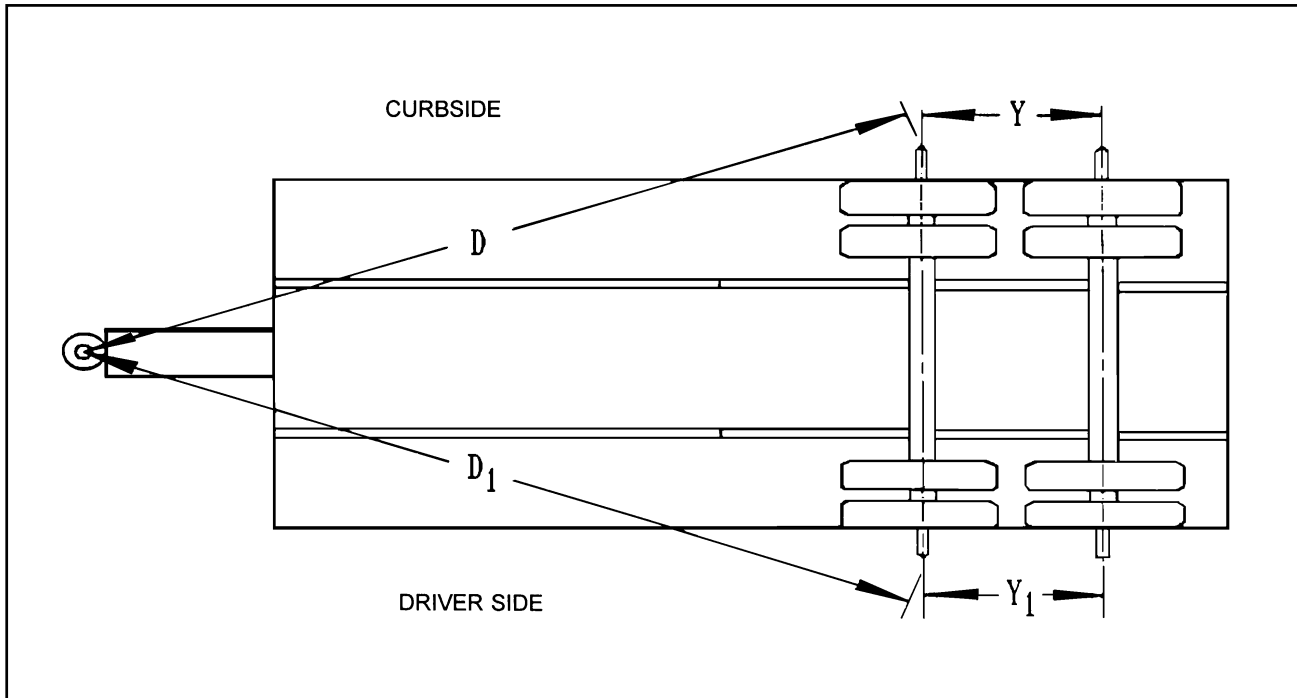

Figure 4-7 Checking Axle Alignment
4. Measure (D) from the plumb bob to the center point on one end of the axle. Record this measurement (See **Figure 4-7**).
5. Measure (D1) to the other end of the axle in the same manner as in **Step 4**. Record this measurement (See **Figure 4-7**).